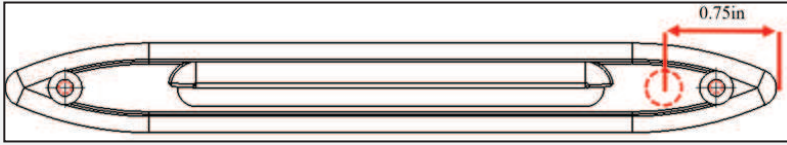

Figure 1: Example of Drilled Hole Locations
2. From the edge of the light assembly, make a mark roughly 0.75in inward from the edge of the light assembly, see Figure 1.
8. With your pencil, mark the mounting holes on either end of the assembly, see Figure 1, and remove the assembly from the mounting surface.